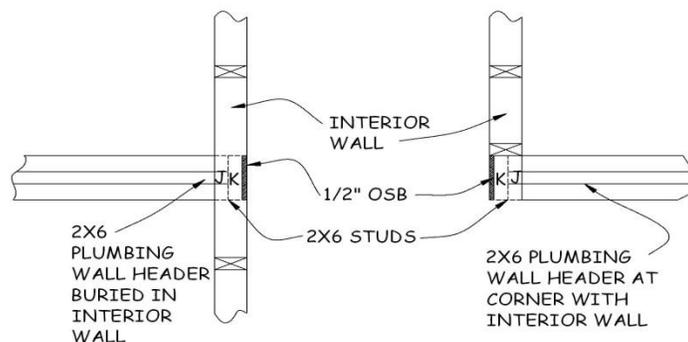

Figure 3-8. Plumbing Wall Configuration.
- b. A 2x6 sliding closet wall intersecting a 2x4 wall at 90°: The intersection of the closet wall framing with the 2x4 interior wall requires a special header configuration (see Figure 3-8). If the two walls create an “L”, butt the side of the 2x6 wall against the end of the 2x4 wall (this makes the 2x6 wall the “long” or overlapping wall). If they create a “T” (where the 2x6 wall butts up to the 2x4 wall), extend the closet header into the 2x4 wall. In both cases, lay out the Jack stud flush with the closet side of the 2x4 wall. Adjoining that will be the King stud and ½” of OSB, creating a 3½”-wide block equal in width to the 2x4 interior wall.